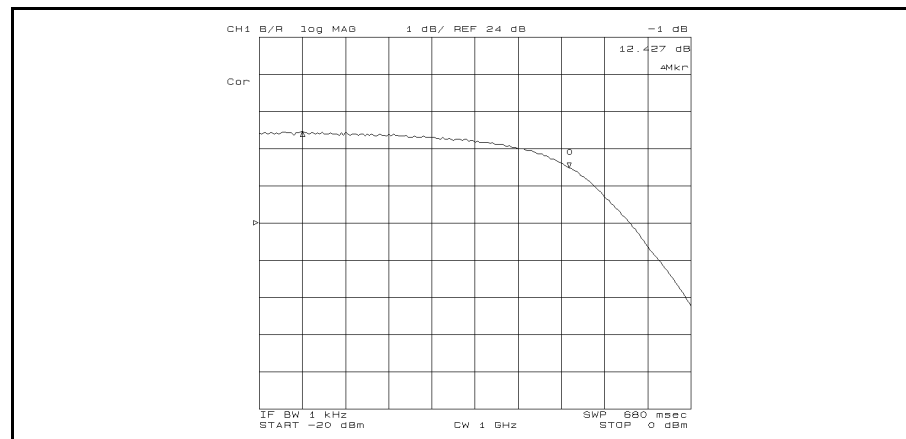

Figure 5-23. Gain Compression
9. Press **[Search]** **TARGET** **-1** **[X1]** to search for the point of the gain compression. (See Figure 5-23.)